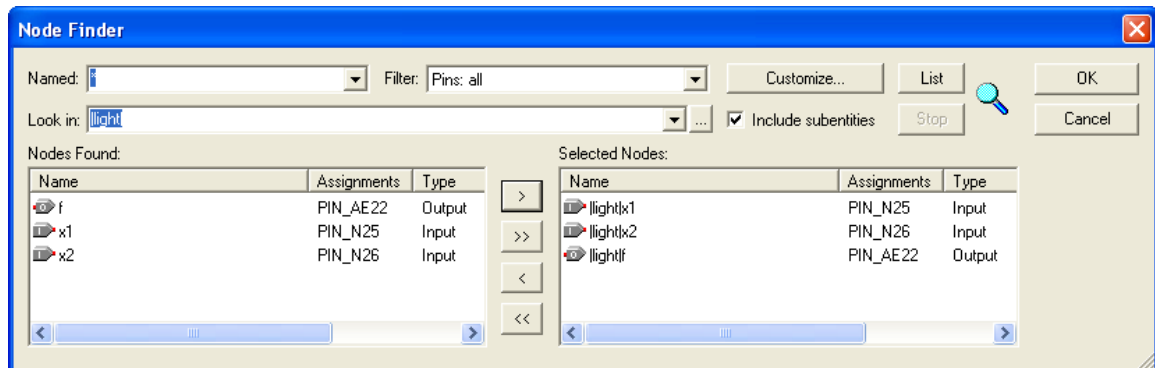

Figure 9. Selecting nodes to insert into the Waveform Editor.
2. Click on the button labeled **Node Finder** to open the window in Figure 9. The Node Finder utility has a filter used to indicate what type of nodes are to be found. Since we are interested in input and output pins, set the filter to **Pins: all**. Click the **List** button to find the input and output nodes as indicated on the left side of the figure.
3. Click on the **x1** signal in the **Nodes Found** box in Figure 9, and then click the **>** sign to add it to the Selected Nodes box on the right side of the figure.